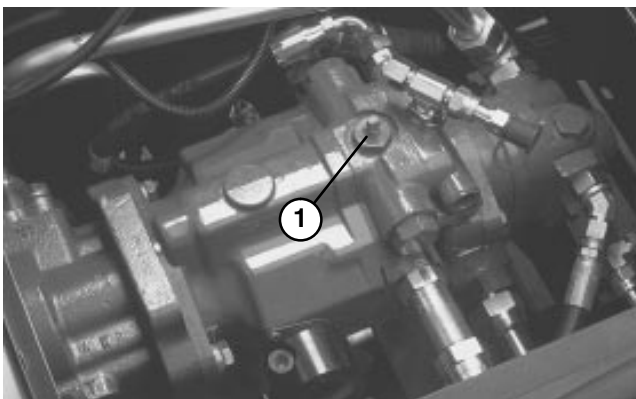

Figure 18
4. Rotate by-pass valve 90 degrees (Fig. 18). Opening the valve opens an internal passage in the traction pump, thereby by-passing hydraulic oil. Because oil is by-passed, traction unit can be moved without damaging the hydraulic system.